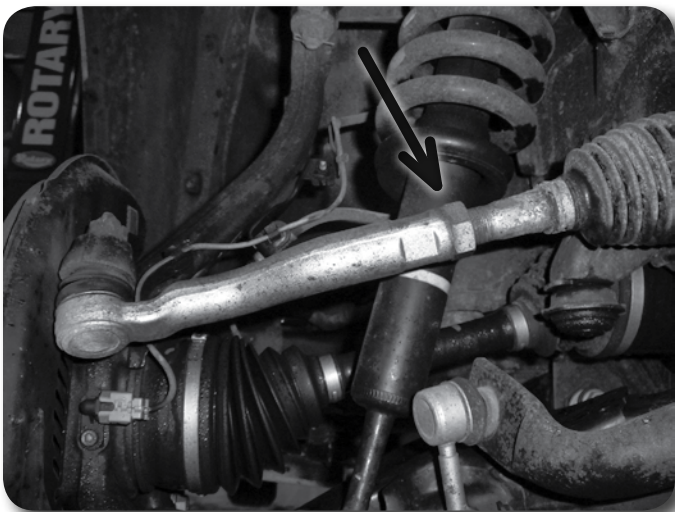

Figure 2
5. Loosen the tie rod end jam nuts **Figure 2**. The tie rod ends will be removed later in the installation.